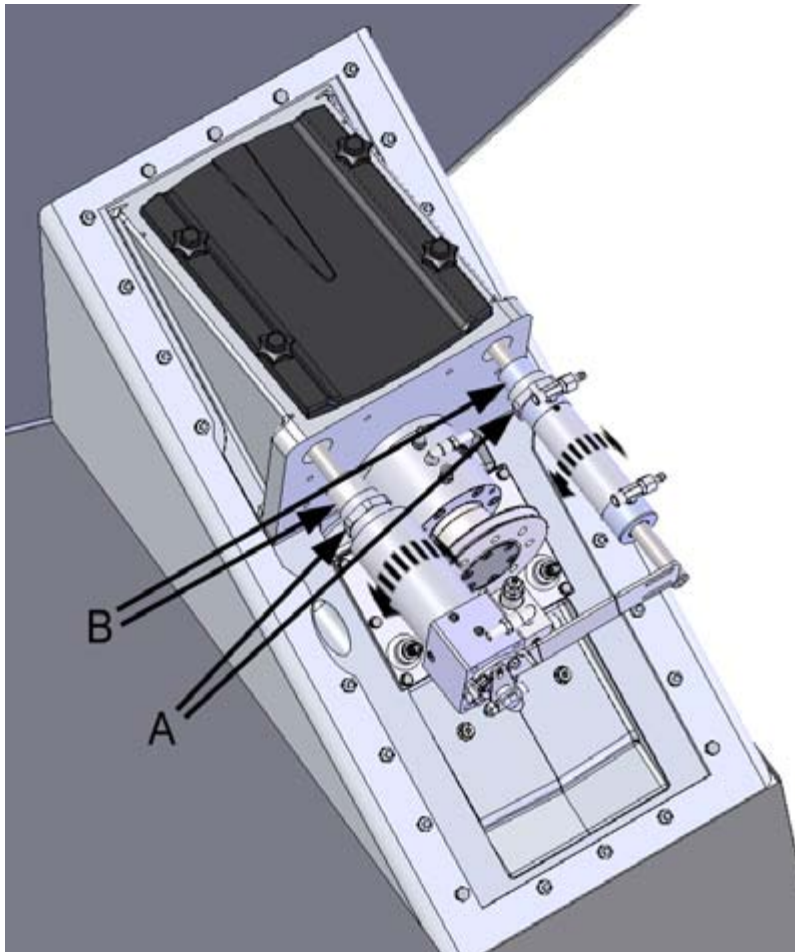

Figure 26. Installing the hydraulic cylinders
1. Make sure that the cylinders are attached without the sealing compound. The lock nut (figure 26, point A) must go through the stern so it rests against the body of the jet.
3. Apply sealing compound to the cylinder retaining threads (figure 26, point B).